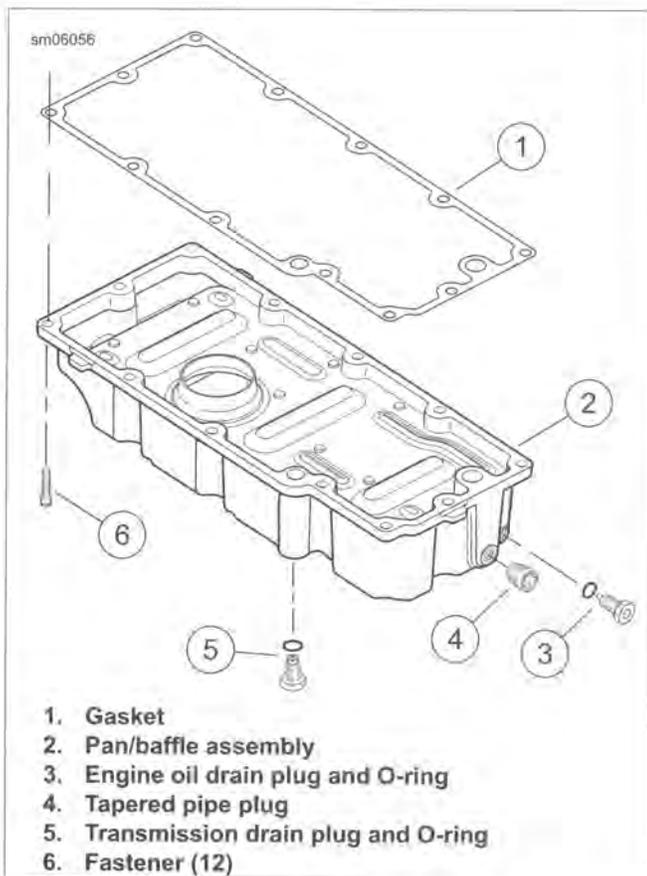

Figure 3-140. Oil Pan Assembly
2. See Figure 3-140. Remove the engine oil drain plug (3), fill plug/dipstick and oil filter. Drain oil into suitable container.
3. Remove the transmission drain plug (5) and drain transmission fluid into suitable container.
6. See Figure 3-140. Remove 12 fasteners (6) that secure the oil pan to the transmission.
1. See Figure 3-140. Clean and examine transmission and oil pan flanges.
2. If removed, install tapered plug (4) using LOCTITE 565 THREAD SEALANT. Tighten to 18-22 ft-lbs (24.4-29.8 Nm).
4. Place **new** gasket (1) on oil pan flange. Allow sealer to dry until tacky.